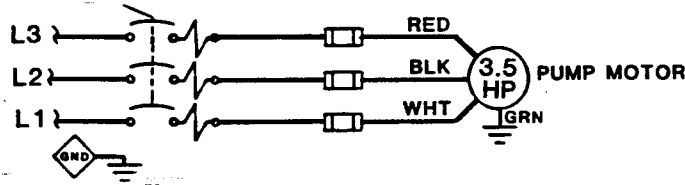

Figure 7. Elementary Wiring Diagram (Without Liquid Level Controls)
- a. Measure the incoming voltage across lines (1 & 2, 2 & 3, and 1 & 3) while the pump is **operating at full capacity**. See Figure 7 on page B-15 or Figure 9 on page B-16.
Connect the pump power cable to the control box as shown in Figure 7 on page B-15 or Figure 9 on page B-16. Use conduit or cable clamps to secure the power and accessory cables to the control box. Make certain that all connections are tight and that cable entry points are rainproof.